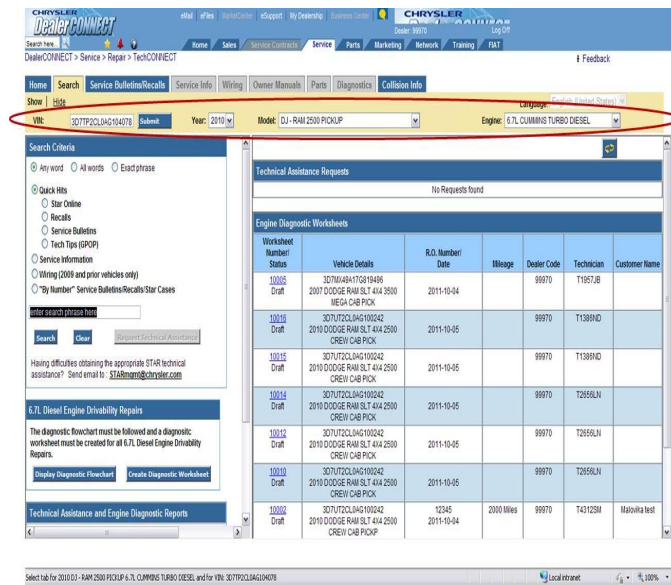

Fig. 1 Cummins Diesel Diagnostic Worksheet
6.7L Cummins® Diesel Diagnostic Worksheets are created, stored, and located in DealerCONNECT>TechCONNECT> Search (Fig. 1). In order to create and/or view Cummins® 6.7L Diesel Diagnostic Worksheets, users must log into DealerCONNECT with a valid SID. If you have the ability to view and/or create a Ticket for Technical Assistance, than your SID is a valid SID. In addition, in order to create a Cummins 6.7L Diesel Diagnostic Worksheets, a valid Vehicle Identification Number (VIN) must be entered into the vehicle configuration box in TechCONNECT (Fig. 1), and then pressing submit. Work Instructions have been developed that discuss the new process and provides detailed instructions on how to properly complete the worksheets. These work instructions are located on the Home Page of TechCONNECT.